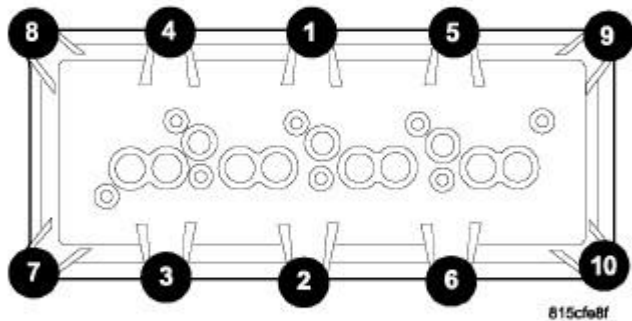

Fig. 98: Cylinder Head Cover Torque Sequence
7. Using the sequence shown in illustration, remove the cylinder head cover retaining bolts and remove the cylinder head cover. See Fig. 98. See Engine/Cylinder Head/COVER\(S\), Cylinder Head - Removal